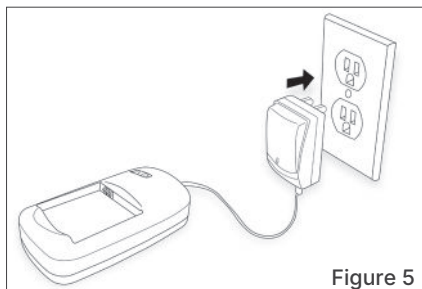

Figure 5
**Step 1:** Plug the battery pack charger and cradle into a wall outlet (Figure 5). A green light on the A/C adaptor will illuminate indicating power (Figure 6).